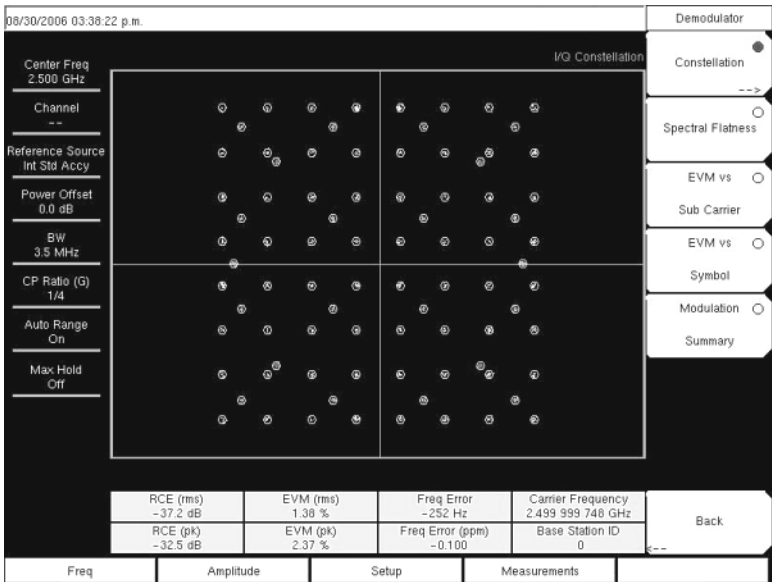
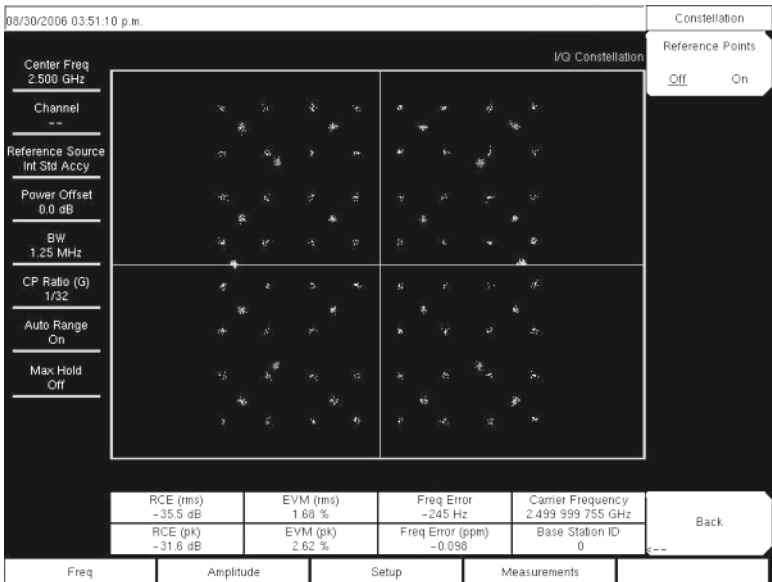

Figure 9-14. Constellation with Reference Points On
Figure 9-15. Constellation with Reference Points Off
13. Press the Reference Points soft key to switch the reference points On or Off (refer to Figure 9-14 and Figure 9-15 below).